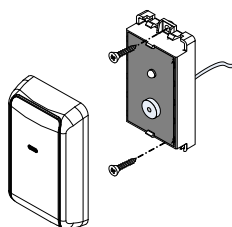

Figure 2
4. Secure the reader to the surface using the supplied screws (see Figure 2).